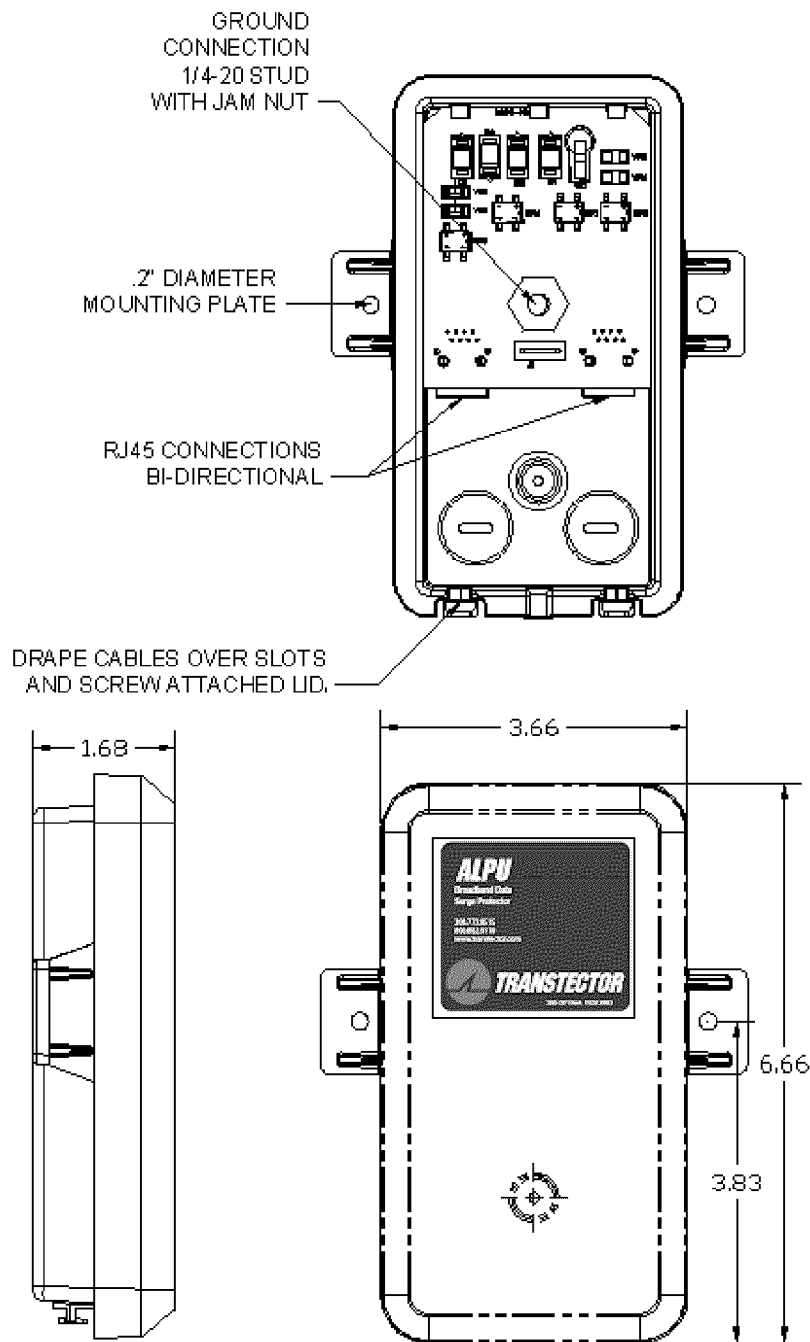
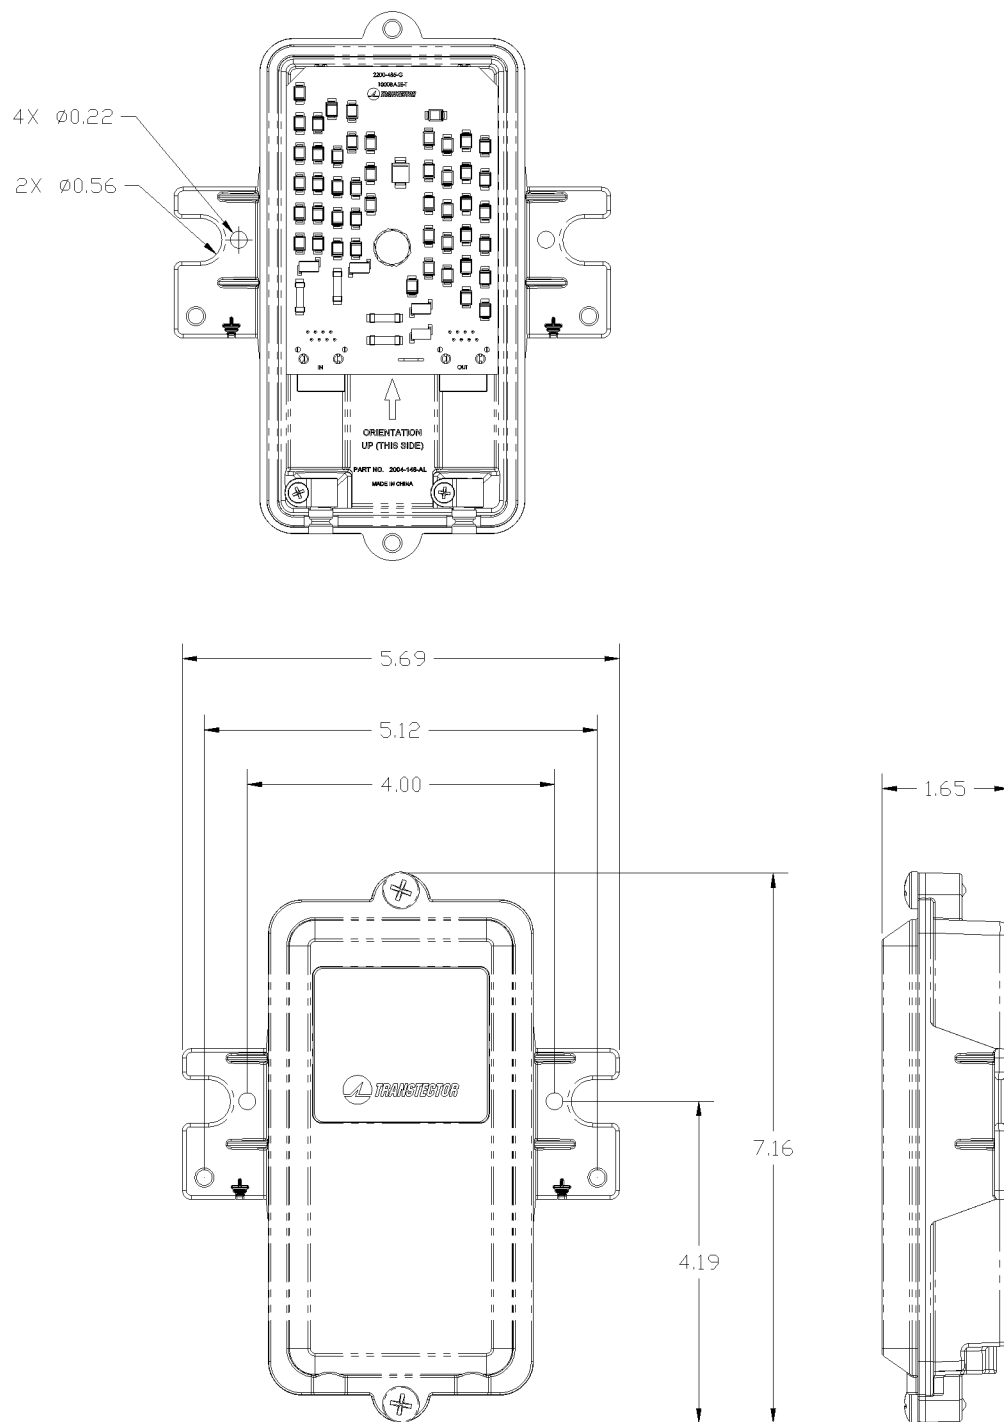

FIGURE 1. MECHANICAL OUTLINE PLASTIC ENCLOSURE DRAWING INCHES.
FIGURE 2. MECHANICAL OUTLINE METAL ENCLOSURE DRAWING INCHES.
- 6. **INSTALLATION:** The ALPU POE Series Protectors are intended to be installed indoors or outdoors, on wall or pole mount applications. The unit mounts on four inch hole centers. Refer to Figure 1 and Figure 2 for mechanical requirements and connector locations. A dedicated ¼-20 ground stud with jam-nut is provided inside the plastic enclosure unit that must be bonded to the nearest grounding system. The optimum ground connection on the metal enclosure unit at the mounting flange on either side and is shown in Figure 2. Use minimum 6awg wire for ground reference attachment. Communications cables with the RJ45 connectors already installed can feed directly into the chassis. Both enclosures feature a built in cable retention feature that grips the cables as the lid is attached. A pole mount adapter kit (PN 1000-1164) is available to adapt to installations on a wide range of pole diameters.